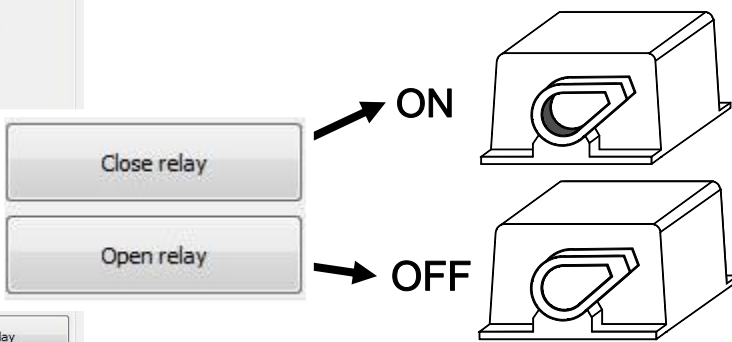

Figure 3-5: Buttons for closing and opening the relay
- 2 Enter on the MasterBus control panel the MasterBus MLi Ultra monitoring page. Operate the Close Relay button at the bottom of this page. If the relay is closed (On), the knob position must be shifted inwards. See figure 3-5.